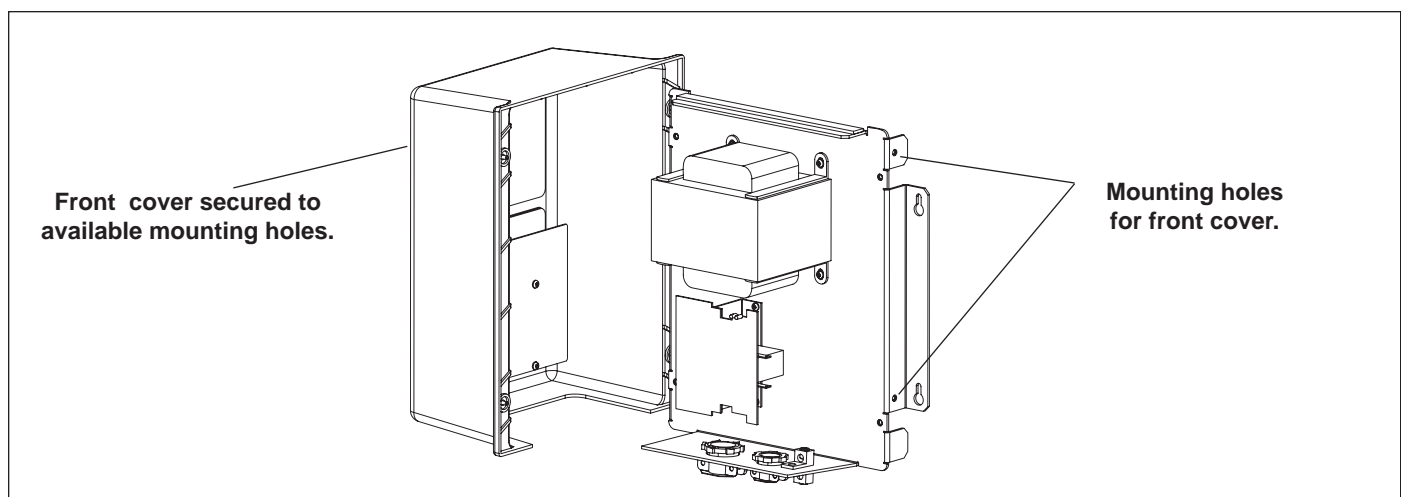

Figure 7. Securing the Control Center Front Cover to the Chassis Backplate
5. Using two of the four front cover screws, attach the cover to the chassis backplate. Please note that the chassis backplate has side mounting holes on both sides that allow you to secure the cover to either side of the backplate while you make all wire connections (see Figure 7).